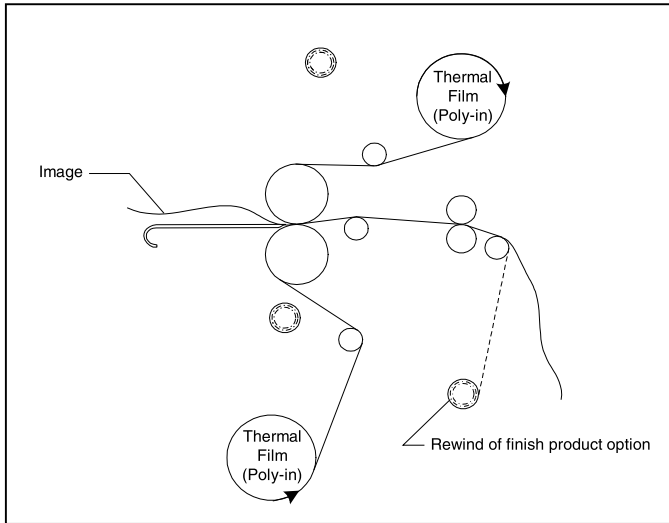

Fig. 43
TIPS FOR THERMAL ENCAPSULATION (Figure 43)
1. Load the laminator as illustrated in Figure 43 for Poly-in film.